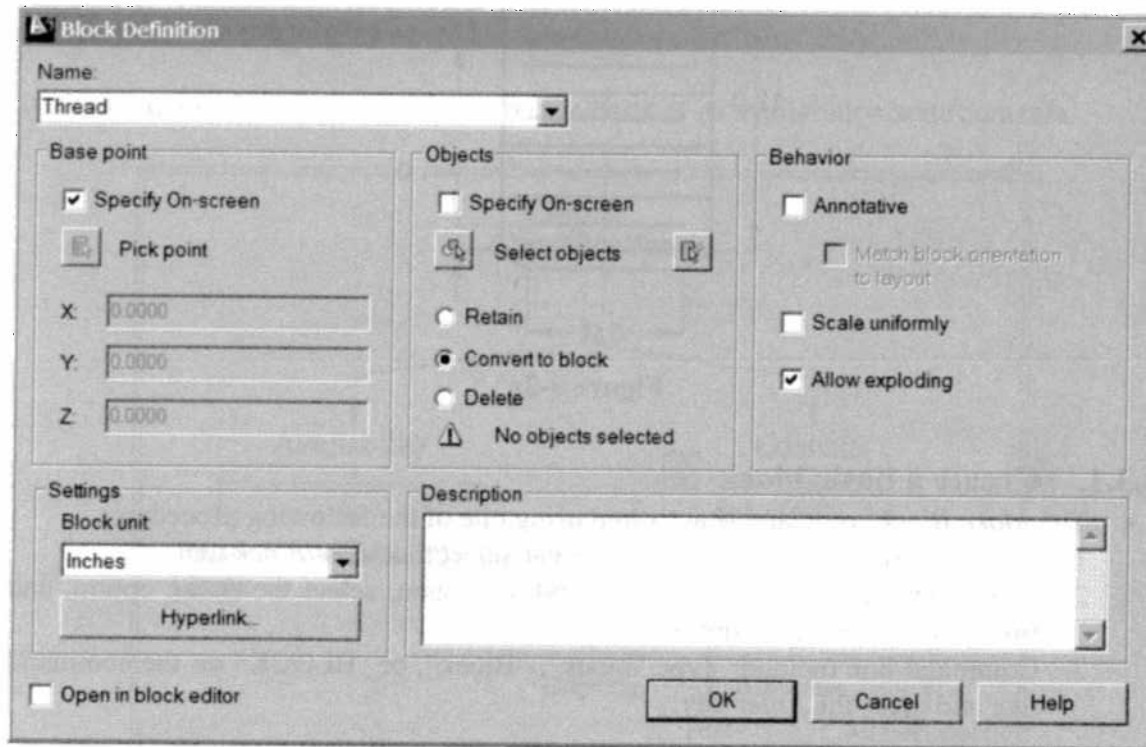

Figure 6-2b
- The activation of the command will open the *Block Definition* dialog box as shown in Figure 6-2b.
The main features of the *Block Definition* dialog box (Figure 6-2b) are briefly discussed here.